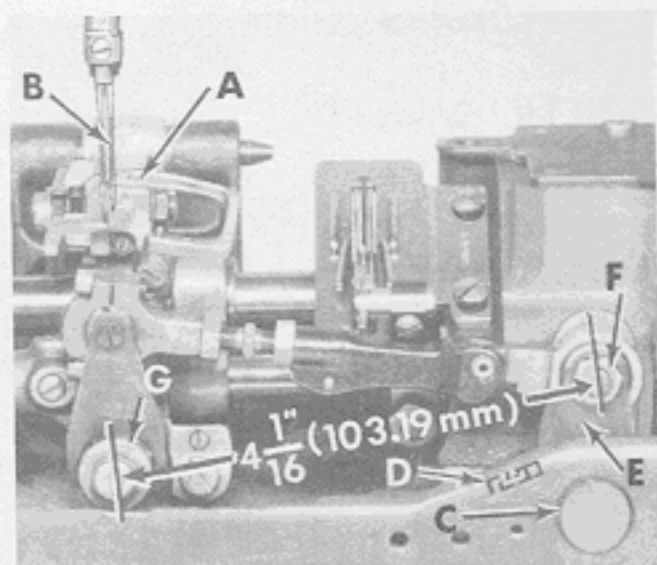

Fig. 5
Insert the looper in the looper rocker and turn handwheel in operating direction until the point of the looper (A, Fig. 5), moving to the left is even with the left side of the right needle (B). Note the height of the eye of the needle with respect to the looper point, then turn handwheel in the reverse direction until the looper point again moves to the left, and is even with the left side of the right needle. If the motions synchronize, the height of the eye of the needle with respect to the looper point will be the same. A variation of .005 inch (.127 mm) is allowable. If the distance from the eye of the needle to the point of the looper is greatest when the pulley is turned in the operating direction move the looper drive shaft synchronizing stud (C) to the rear. Moving it in the opposite direction acts the reverse.
Moving of the looper drive lever shaft synchronizing stud is accomplished as follows: Loosen the clamp screw (D) of the looper drive lever. To move stud to rear (away from operator), a light tap with a small hammer, directly on the stud is all that is required. To move stud forward (toward operator), remove the cloth plate, throat plate support, oil reservoir top cover and oil reservoir back cover, then, a light tap on the looper drive lever rocker shaft, toward the operator, is all that is required. Note: Looper drive lever (E, Fig. 5) has an oil seal collar and an "O" ring between it and the bed casting. All end play must be removed from the looper drive lever rocker shaft by compressing the "O" ring until drive lever (E) and the oil seal collar make metal to metal contact with the bed casting. Tighten screw (D).
With the looper at the extreme right end of its travel, check the location of the center line of the right looper connection rod bearing, using gauge No. 21227 CX. Remove nut (F, Fig. 5) and place hole in gauge over threaded stud. The left end of the gauge should locate against the right side of the looper rocker cone (G). If adjustment is necessary, loosen the clamp screw (D) and reposition the looper drive lever (E) as required. Tighten clamp screw. If gauge is not available, setting can be checked with a scale. The distance between the center line of the looper rocker cone and the center and the center line of the looper lever stud should be $4 \frac{1}{16}$ inch (103.19 mm) (Fig. 5).